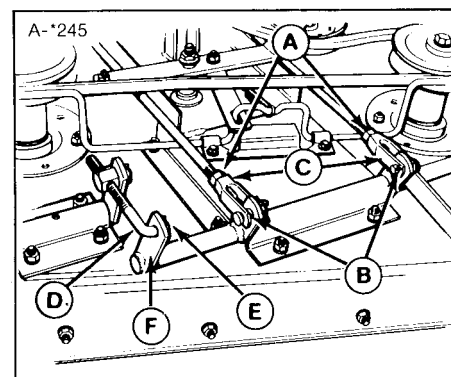

Figure 36. Levelling Mower
5. Remove the cotter pin (E, figure 36) which secures the mower levelling rod (D). Shorten the rod (D) to raise the left side of the mower or lengthen the rod to lower the left side of the mower. Put the levelling rod back in its hole and recheck the measurements. If the mower is level, install the cotter pin (E).